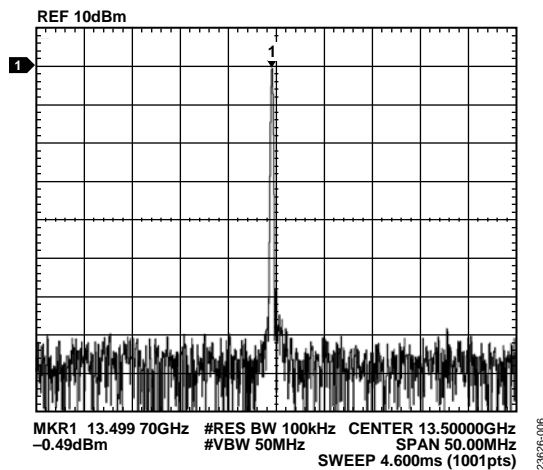

Figure 4. EV1HMC8362LP6G, VCO Band 1, $V_{TUNE} = 8.45$ V, 13.5 GHz, Includes Insertion Loss of RF Cable
2. If the EV1HMC8362LP6G is configured correctly, a signal at approximately 13.5 GHz with approximately 0 dBm to 2 dBm of output power appears on a spectrum analyzer or signal source analyzer. Refer to Figure 4.